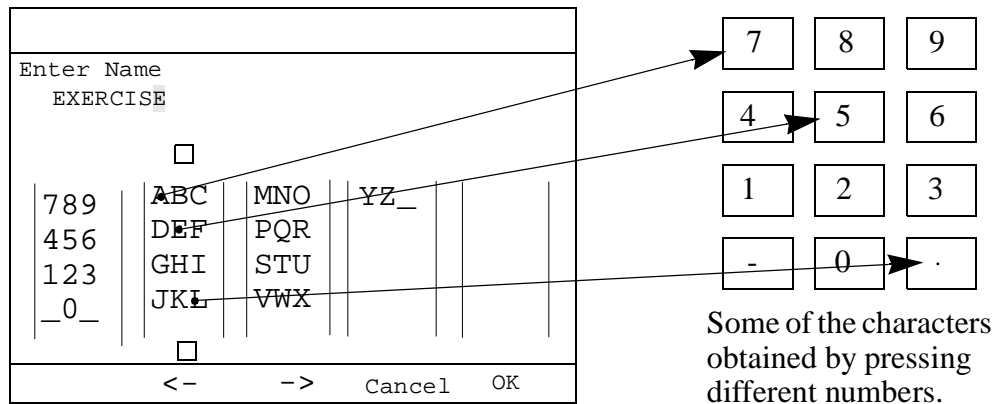

Figure 66 Window for entering text.
5. Press the Enter key to enter an optional name. The text-input dialog box in Figure 66 then appears.
You can now see five groups of characters. Each group is represented on the numeric keyboard: the layout of the keyboard corresponds to the layout of the characters. You can move between the various groups using the <- and -> function keys (the selected group is indicated with squares both above and below it, see Figure 66).